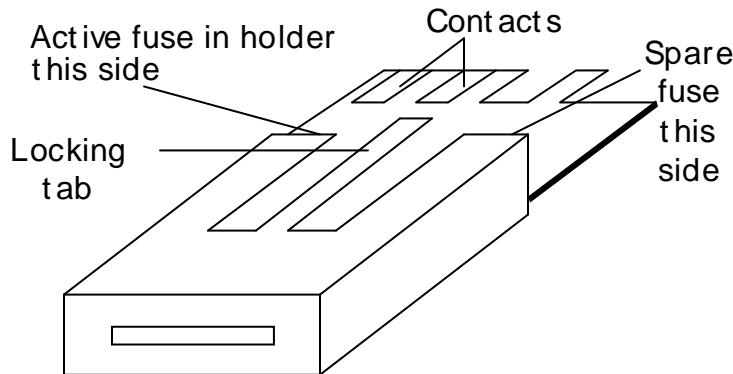

Figure 1-5
- Once the fuse drawer has been completely removed from the instrument remove the **clear fuse tray** from the drawer by lifting upward slightly on the long narrow black locking tab. This will allow the fuse tray to be removed from the fuse drawer. This tray contains the active fuse, left side (secured by holder) and spare fuse on the right side (if present). Refer to Figure 1-5.